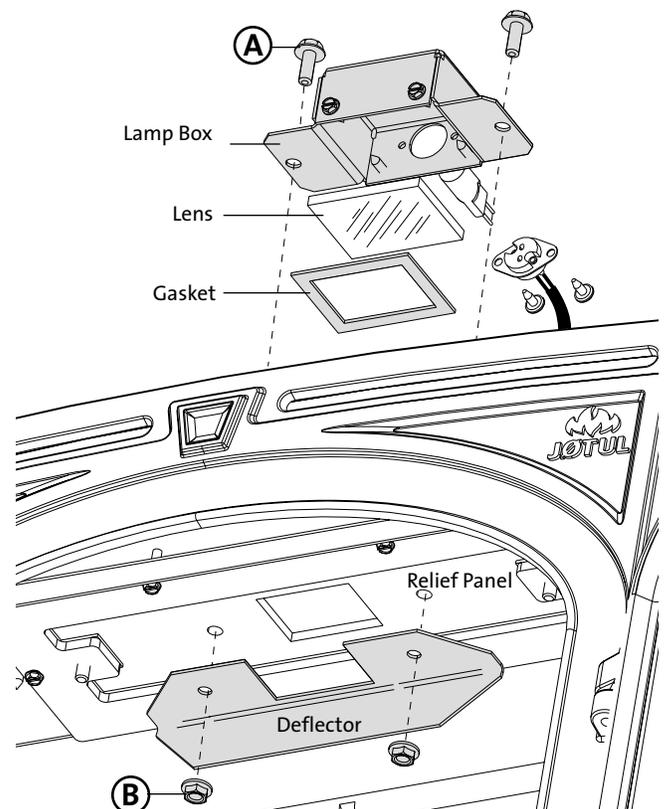
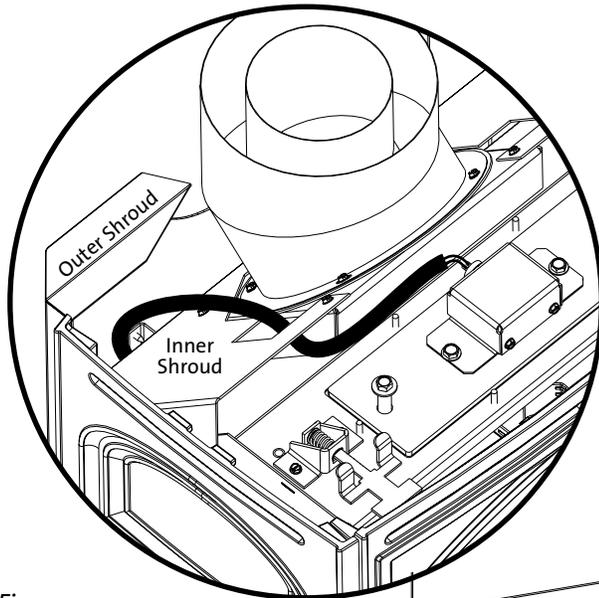

Figure 48. Accent Lamp installation.
Figure 49.
2. Remove the two flanged hex head bolts (A), nuts (B) and cover plate from the Relief Panel using a 10 mm socket or wrench. See fig. 48.
3. Position the Gasket, Lens, and Lamp Box on the top of the Relief Panel using the two bolts (A) previously removed.
4. Inside the firebox, attach the Light Deflector plate to the bolts on the underside of the Relief Panel using the nuts (B) previously removed.
5. Route the controls wire harness in between the inner and outer shrouds, and then through the opening in the base plate. Connect the harness to the (L) terminal on the rear of IFC board. See figs. 49 - 50, page 28.